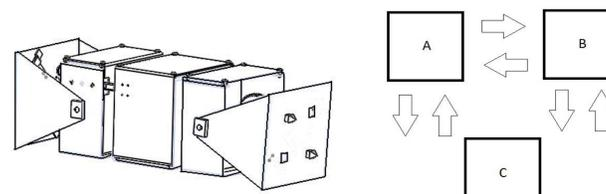

Figure 5: Modular self-reconfigurable robots (MSR) and its basic layout for three-way wireless communication.
- Three-way Communication (Figure 5)
- Next step is to apply topology to MSR (Figure 5) and explore efficiency of sharing computational tasks
- Apply topology to MSR (Figure 5) and measure resulting computation times for typical tasks